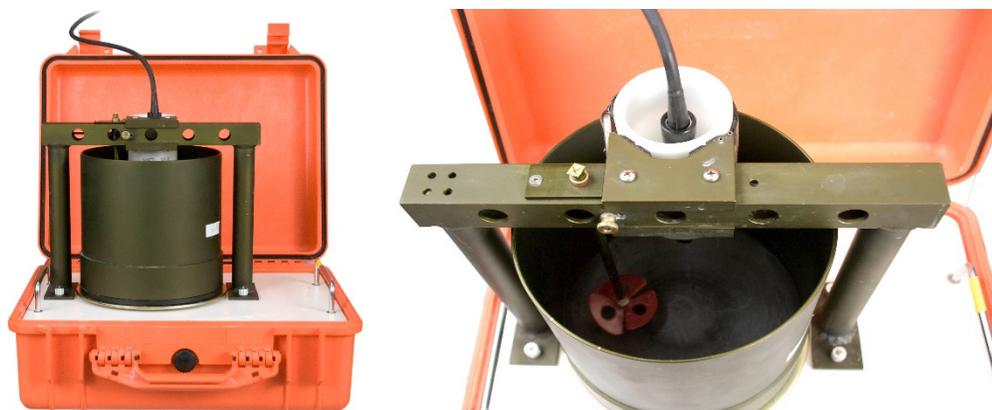

FIGURE 8-5. Portable Sediment Suspender (left) and OBS beam orientation in suspender tub (right)
4. After measuring the clear-water signal (Step 1, Section 8.6.1, *Turbidity (p. 24)*), mount the OBS501 so that the sensor end is 50 mm above the bottom of the suspender tub and secure it in the position that minimizes reflections from the wall; see FIGURE 8-5.